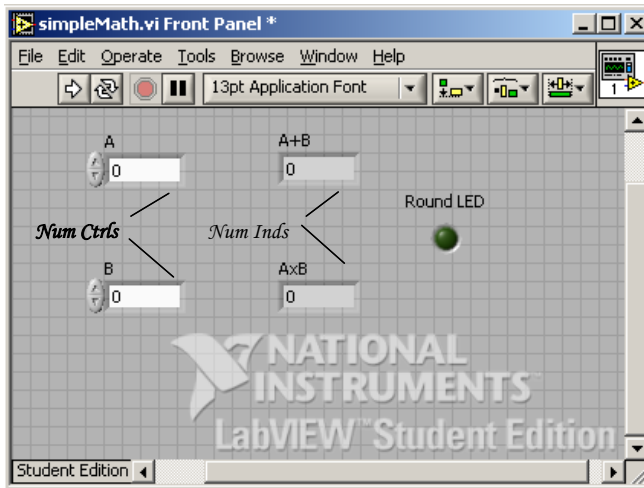

Figure 1A: Front Panel
**Step 1:** Launch LabVIEW to create the following front panel (Figure 1A below). Right-clicking the mouse will bring up a menu of graphical elements (NI calls them controls). One can then click and drag the desired control into the front panel (gray area).